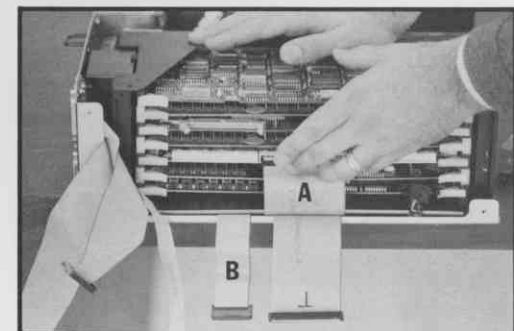

Figure 56 Disk Command and Disk Data Cables
- 4.36** Connect the disk command and disk data cables to the Xylogics 450 board as shown in figure 56. Then, if you have a 1/2" tape controller board, connect both tape control cables to it.